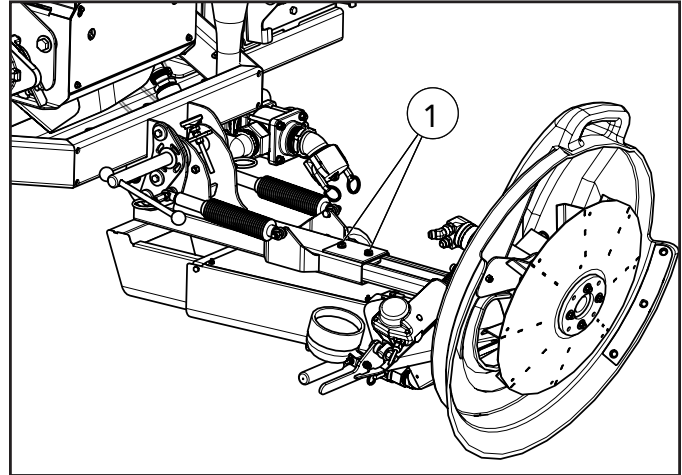

Figure 5
- b. Figure 5 - Loosen clamp and raise distribution system until horizontal to ground. Tighten clamp to hold position.
- c. Loosen hardware on chute lock plate (1) indicated in Figure 5.